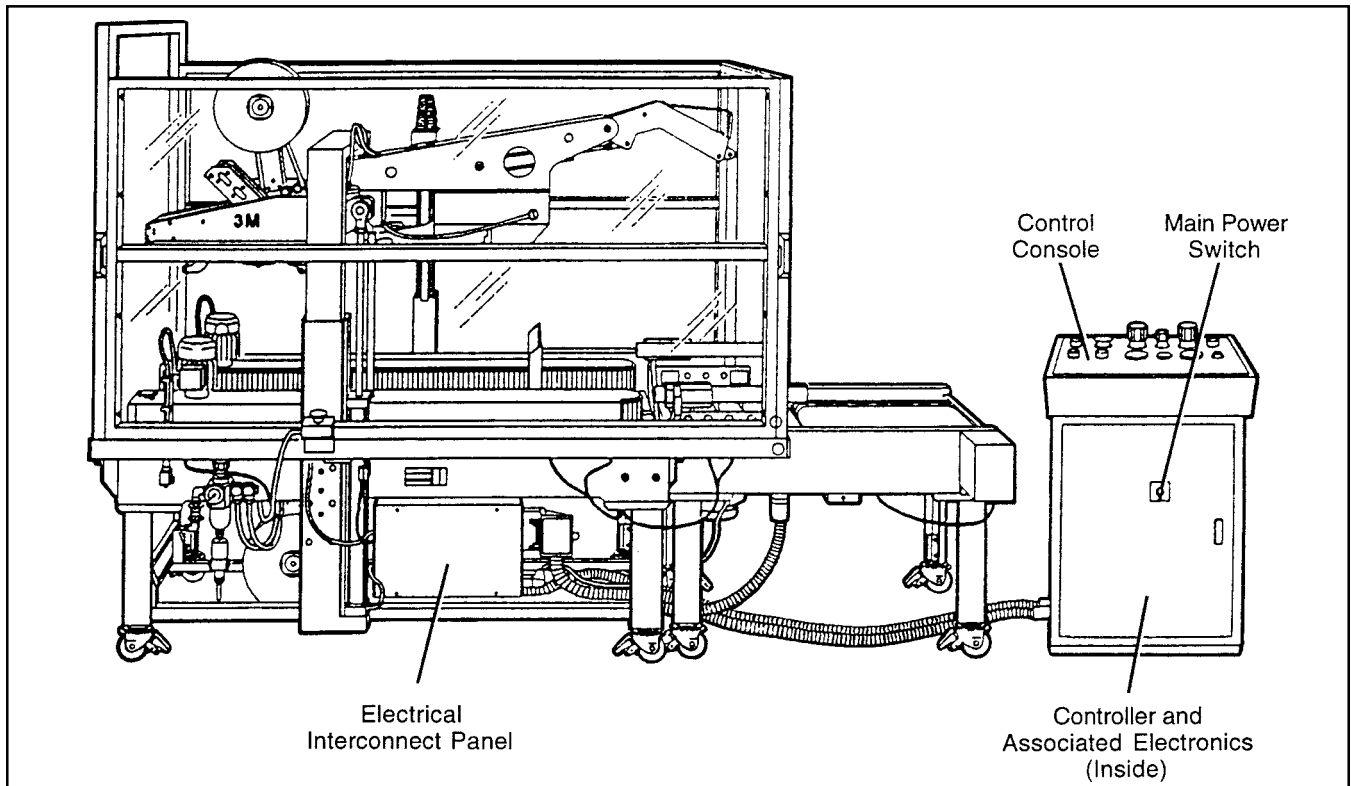

Figure 5-5 – 800rf Case Sealer
3. Remove the electrical interconnect panel on the 800rf (see Figure 5-5) and feed the other end of the cable through one of the holes in the side of the electrical interconnect box. Insert the other end of wire 1 into terminal 5 of the terminal strip inside the 800rf if you desire that the machine operates as described in option 1 (page 31). If a terminal has more than one screw, all screws may need to be loosened to insert a new wire. (Insert the other end of wire 1 into terminal 18 of the terminal strip inside the 800rf if you desire that the machine operates as described in option 2, page 31.) Insert the other end of wire 2 into terminal 4 and wire 3 into terminal 3. Tighten down all terminal screws.